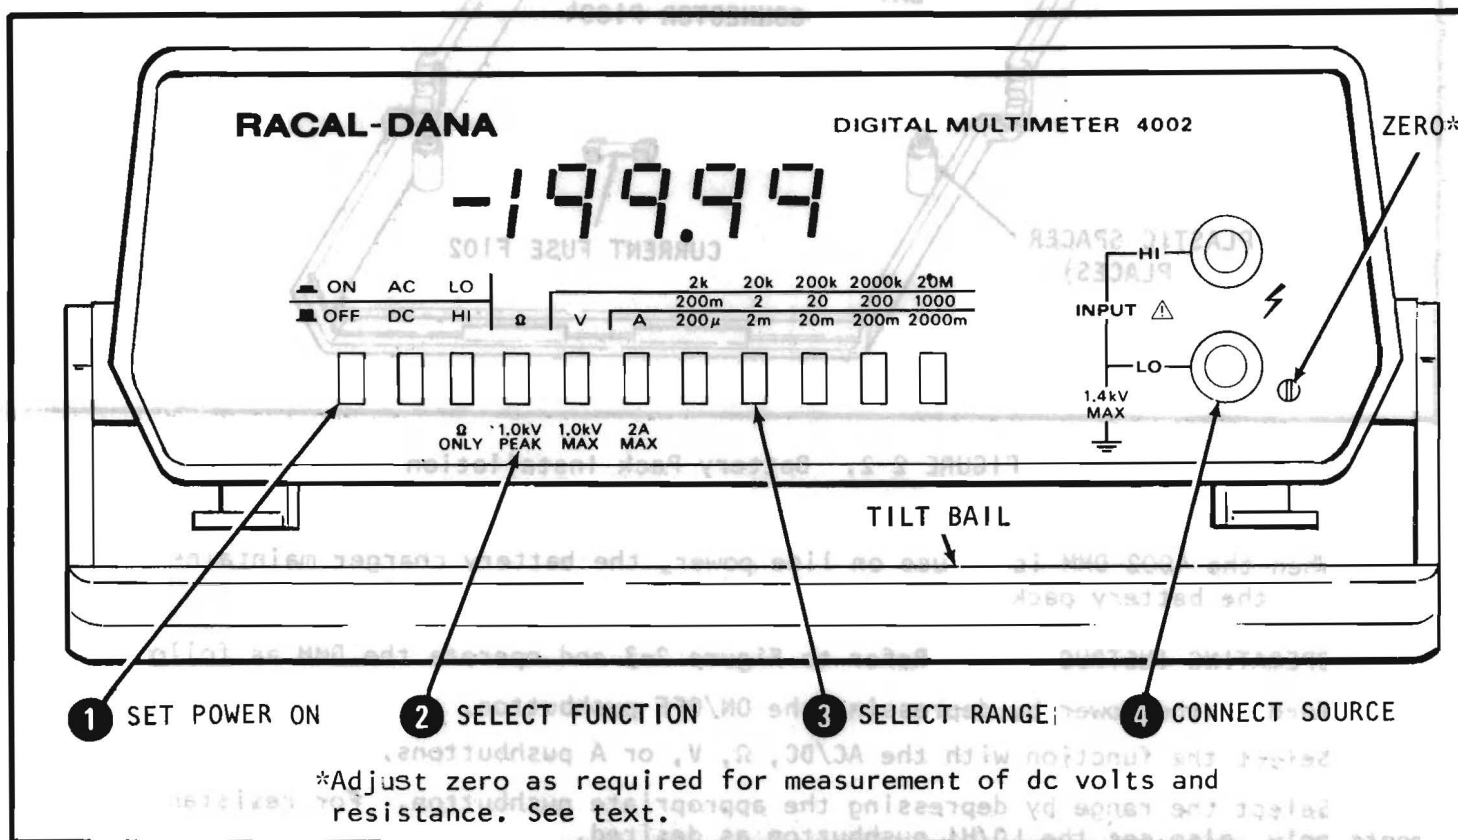

FIGURE 2-3. Operating Controls.
**2-7. OPERATING INSTRUCTIONS.** Refer to Figure 2-3 and operate the DMM as follows: